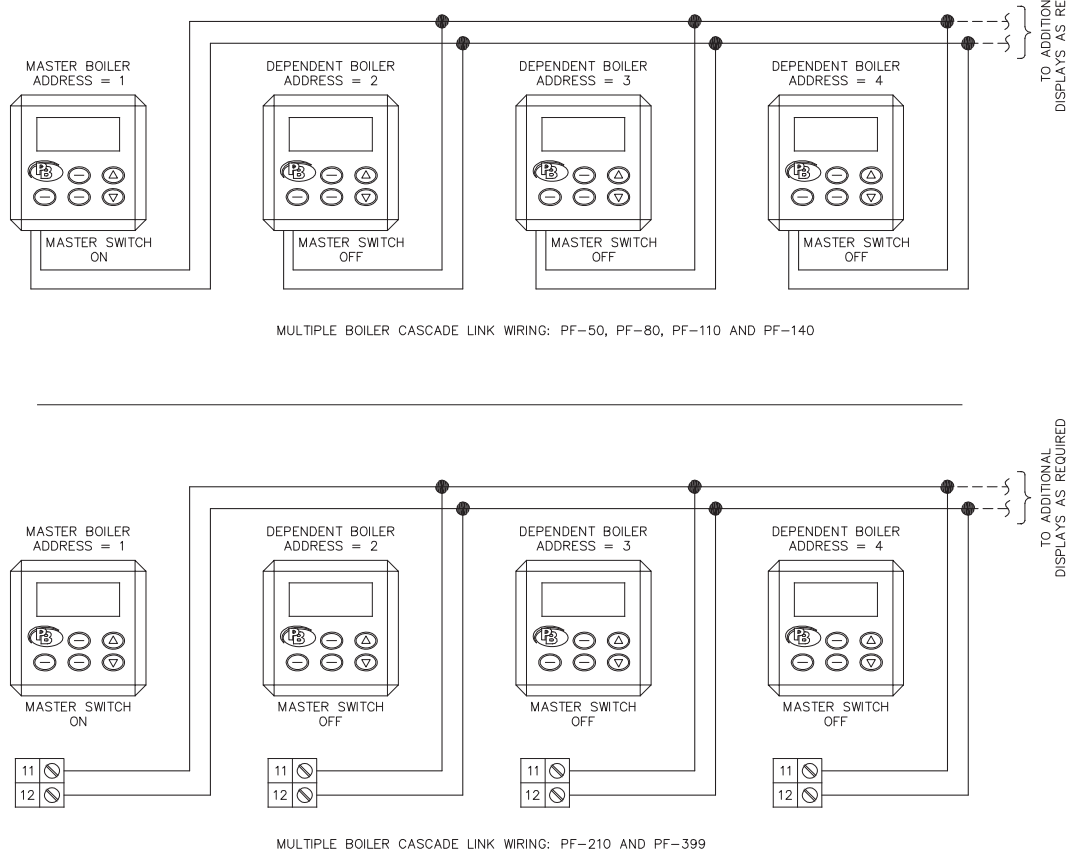

Figure 8.11: Interconnection of Cascade Link Wires
- All of these wires are to be connected to the Master Boiler as shown in Figure 8.11.